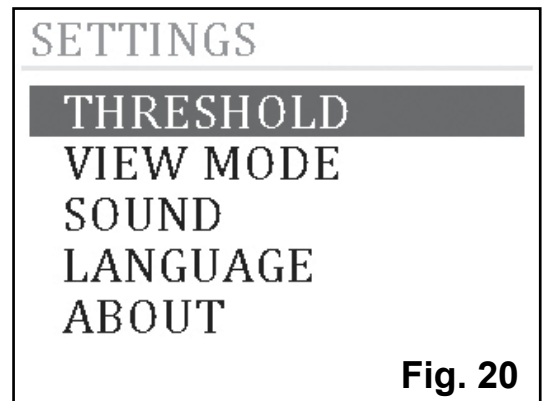

Fig. 20
2. Select «THRESHOLD» by pressing  button. Press  to enter the «THRESHOLD» settings (Fig. 20).